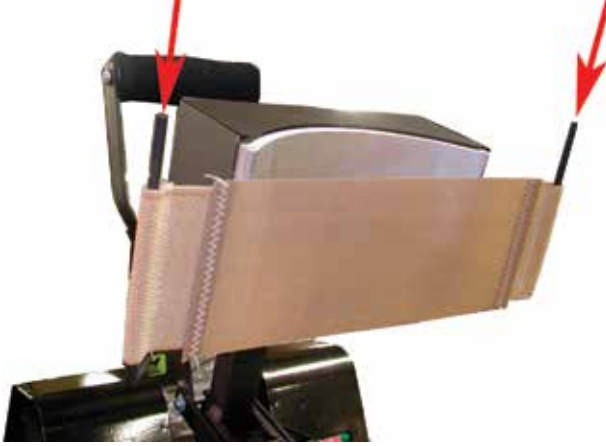

Figure 1
4. Install PTFE blanket onto bracket by opening the press and sliding the loops on each end of the PTFE blanket over the ends of the PTFE bracket. (see figure 1)